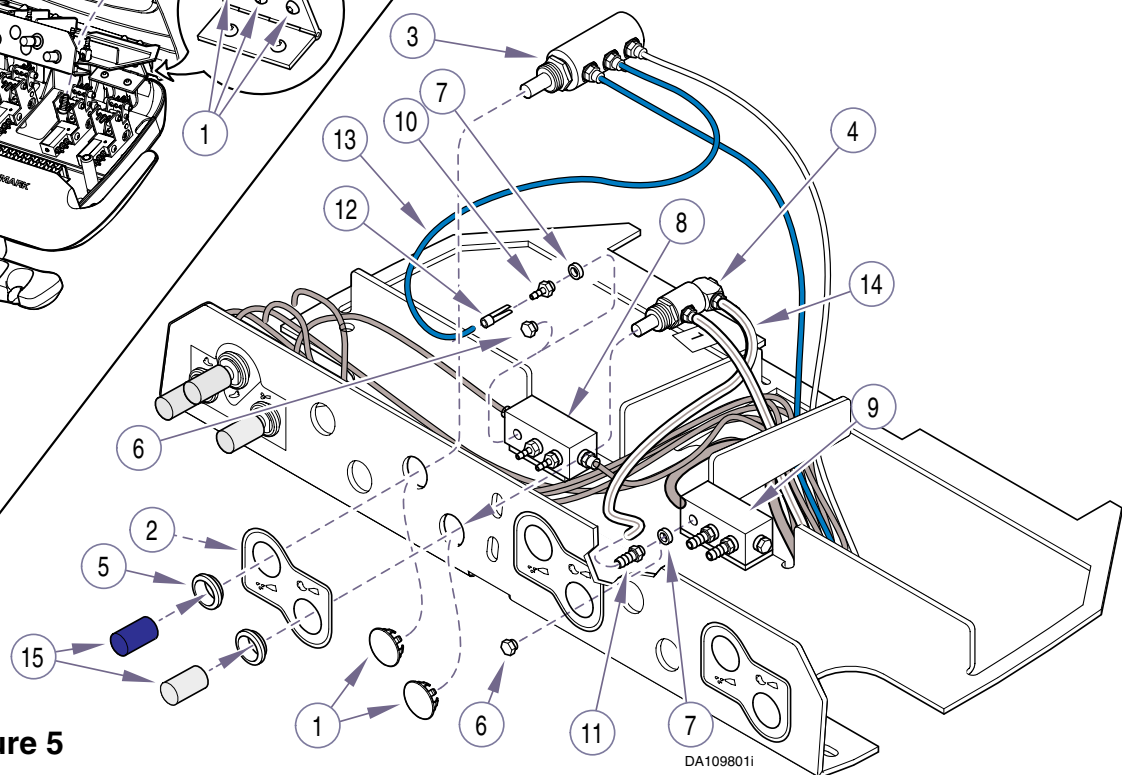

Figure 5
- (2) Remove two hole plugs (1, Figure 5); then install handpiece label (2).
- (3) Insert water control valve (3) and air control valve (4) thru lid cover; then secure valves with trim rings (5).
- (4) Remove one plug (6) and one gasket (7) [each] from water manifold (8) and air manifold (9).
- (5) Install 1/8" barb fitting (10) and one gasket (7) in water manifold (8).
- (6) Install 1/4" barb fitting (11) and one gasket (7) in air manifold (9).
- (7) Install uni-clamp (12) on 1/8" blue tubing (13) from middle fitting of water control valve (6); then connect tubing to water manifold (8) and secure uni-clamp.
- (8) Connect 1/4" clear tubing (14) to air manifold (9).
- (9) Route remaining tubing from water & air control valves thru hole in lid cover as shown.
- (10) Install knobs (15) onto water & air control valves; then tighten set screws to secure.